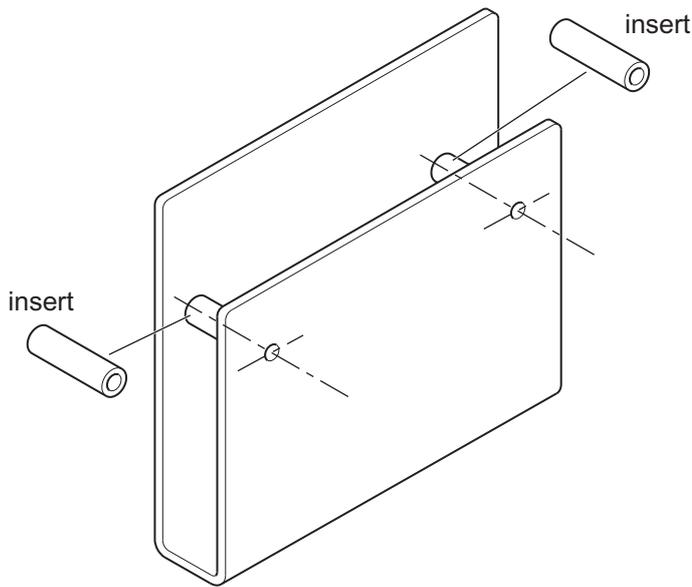

Fig. 3
- 4 **Fig. 3** shows a plastic holder for leaflets in a library. The holder is attached to a wooden notice board using screws which pass through the inserts.
- (iii) **What equipment** would be used to bend the material into the shape illustrated in **Fig. 3**?
- (iv) Give **one** reason for using inserts as shown in **Fig. 3**.